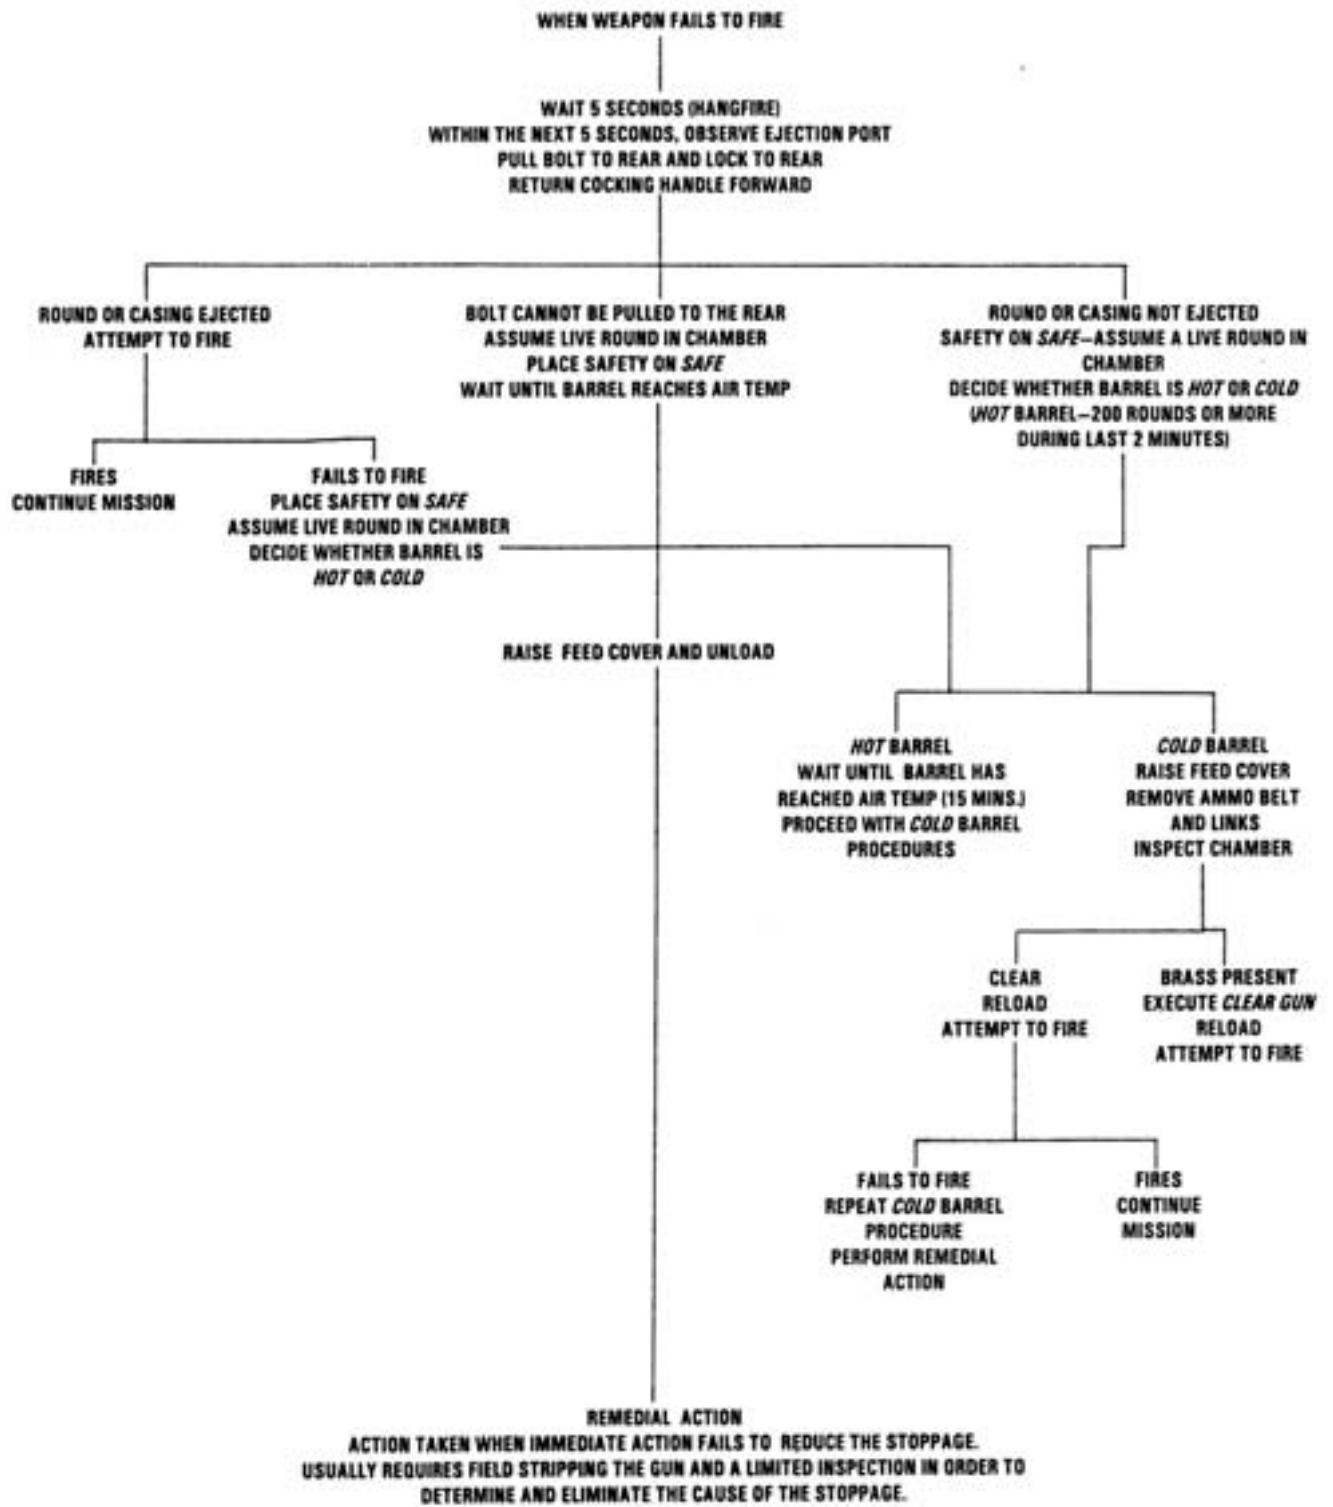

Figure 3-33. Immediate Action.
- Within the next 5 seconds (to guard against a cook off), pull the charging handle to the rear, observe the ejection port, and, if brass was seen ejecting, attempt to fire again. If brass did not eject, place the weapon on S, determine if the barrel is hot (200 rounds or more fired in the last 2 minutes) or cold, and take the appropriate steps as outlined in figure 3-33.